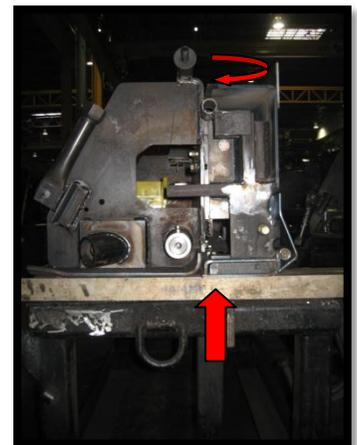

Fig. 9
12. With level still in place, adjust tail of extension wear plate down by adjusting the angle of attack adjuster counterclockwise until rear of wear plate just touches level. Fig. 9